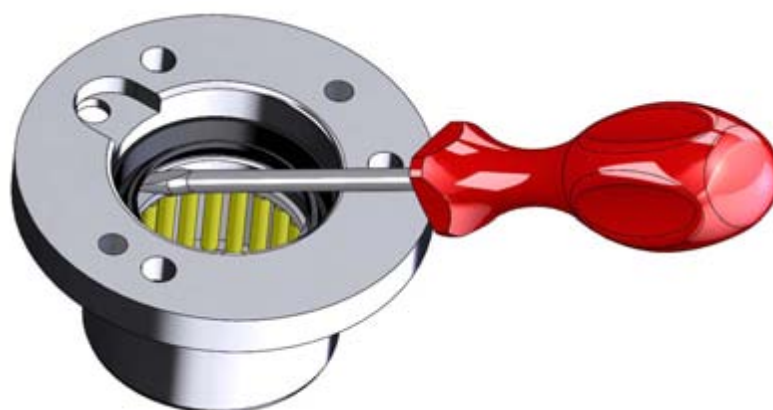

Figure 30. Removing the rear bearing seals
1. Remove the seals with a screwdriver, for example (figure 30).